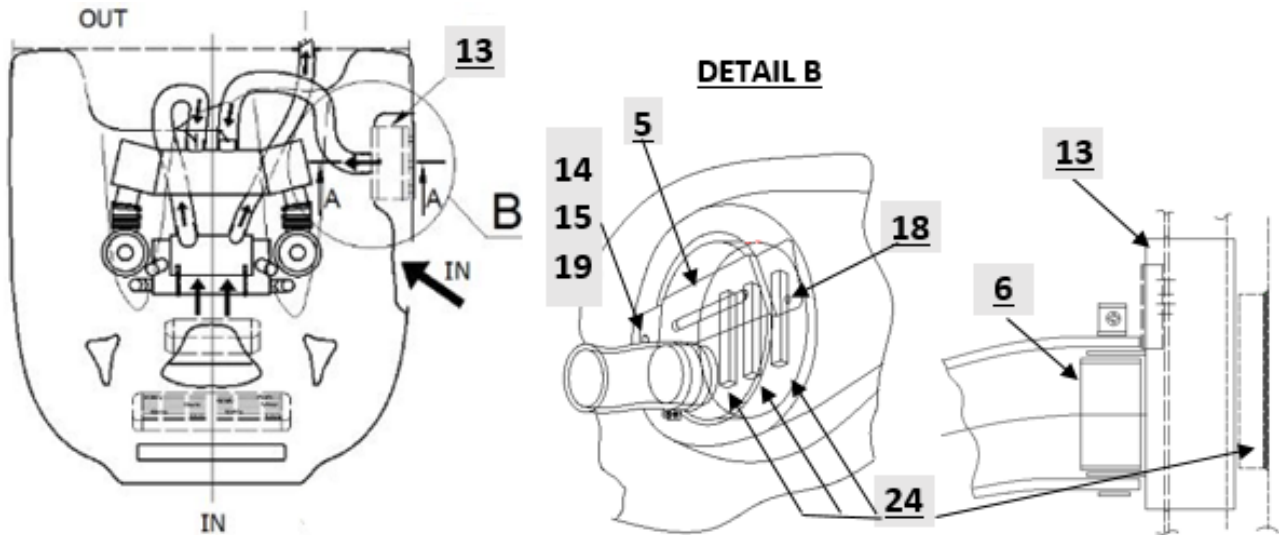
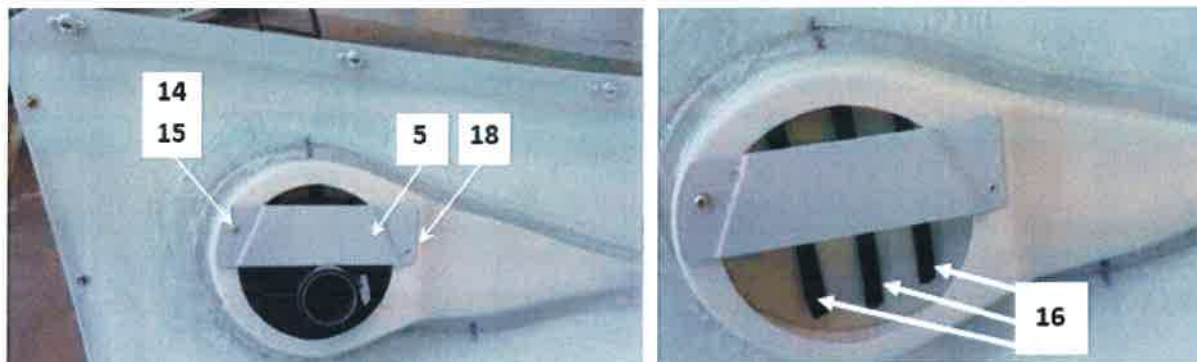

Figure 6: Air inlet
Figure 19: Air filter bracket + rubber profiles
25. Set the air filter bracket to the NACA inlet of the lower cowling. On the bracket – mark hole midpoints for the rivet and the bolt, drill 2 x dia.4,1 mm holes and deburr. See Figure 6, Figure 19.
26. Set the air filter bracket on the NACA inlet of the lower cowling and, according to the hole in the bracket, in the NACA inlet body - drill hole dia.4,1 mm for the rivet nut. Deburr the hole. Match the nut with the NACA inlet body and drill 2 x dia.2,5 mm holes for rivet nut in it. Countersink and deburr the holes and rivet the nut to the NACA inlet body. Set the air filter bracket on the NACA inlet and fix the bracket position with help of bolt and nut. Based on the dia.4,1 mm hole made in the bracket, drill hole dia.4,1 mm in the NACA inlet body. Rivet the bracket to the NACA inlet body. See Figure 6 and Figure 19.
27. Cut 3 pieces of self-adhesive rubber profiles, match the profiles and stick down to the lower cowling NACA inlet. Insert air filter and fix the air filter bracket with the bolt, see Figure 6, Figure 19.
When connecting the hoses, do not forget to insert air filter socket in the filter, see Figure 6.